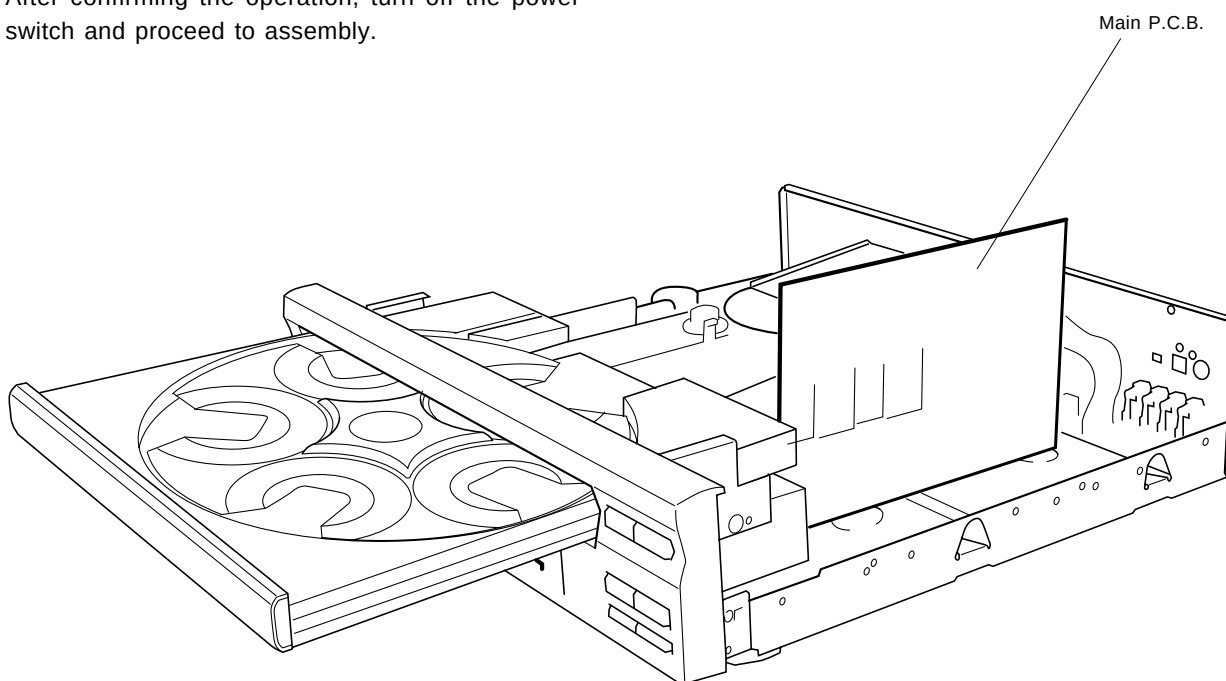

Fig. 14
- h. Set the Main P.C.B. upright as shown in Fig. 14.